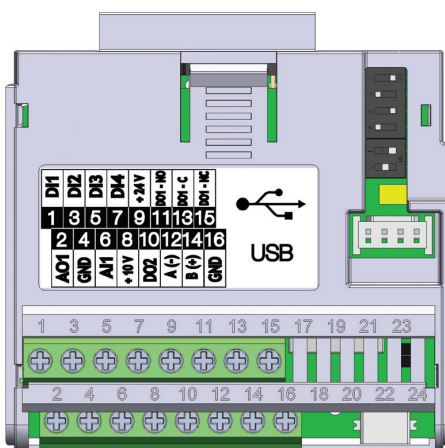

Figure 19.3: Plug-in module MW500-CUSB
The MW500-CUSB plug-in module has Serial (1) interface through RS-485 port at terminals 12 (A1-) and 14 (B1+), as well as the Serial (2) interface through USB port at standard connector mini USB (mini B), see Figure 19.3 on page 17-2.